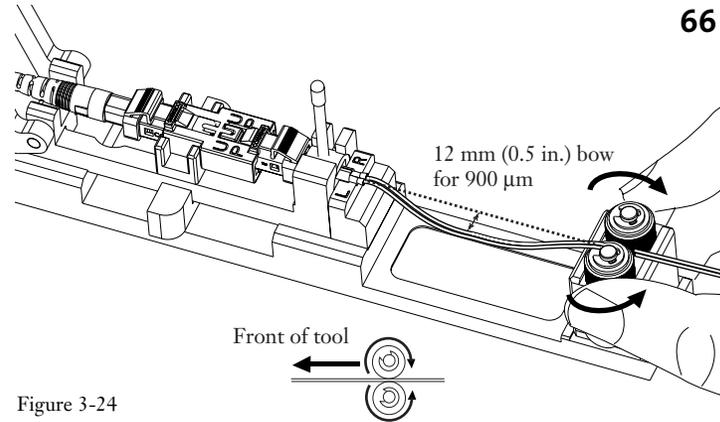

Figure 3-24
**3.7-4** Lightly pinch the index rollers on the fibers, and slowly rotate the rollers until a slight bow forms in both fibers between the connector and the index rollers (Figure 3-24).